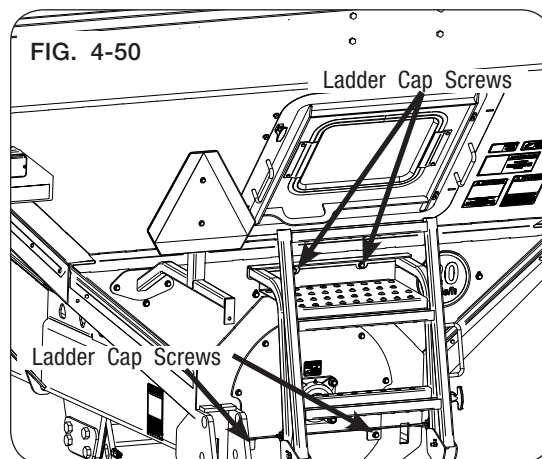

FIG. 4-50
36. Using a safe lifting device rated for 100 lbs., reposition rear ladder, if equipped. (Fig. 4-50)